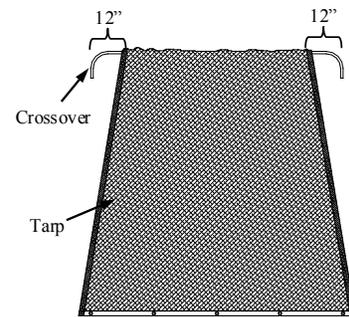

Figure 9a
**Connecting the tarp to the crossover.** To attach the tarp to the crossover simply thread the crossover through the pocket at the end of the tarp, (Note: it may be helpful to spray a lubricating oil into the pocket on the tarp before threading). Then, using the two hose clamps provided, secure the tarp to the crossover (Notes: the outside edge of the tarp should be 12" from the outside of the crossover, see figure 9a. You will need to cut small slits in the pocket of the tarp to get the hose clamps around the crossover).